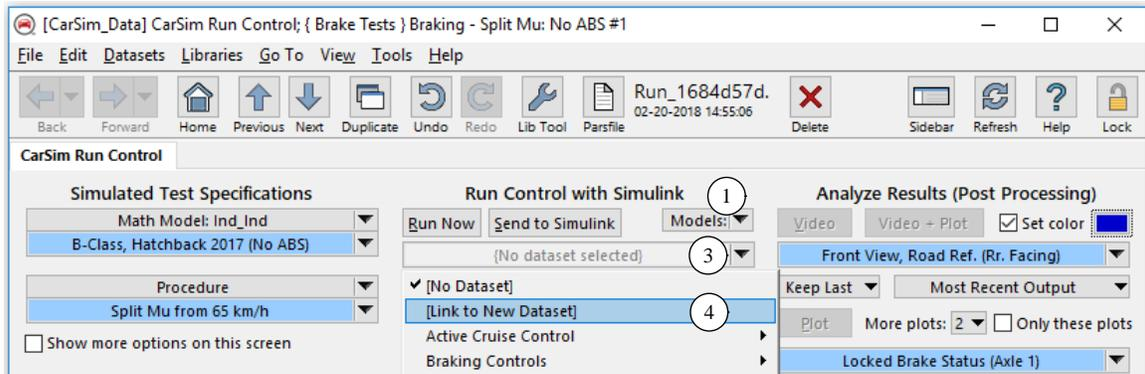

Figure 10. Choose the option: [Link to New Dataset].
1. Use the **Models** drop-down control (1) to choose the **Models: Simulink** library (2). This causes a potential link to appear below the **Models** control (3) (Figure 10).